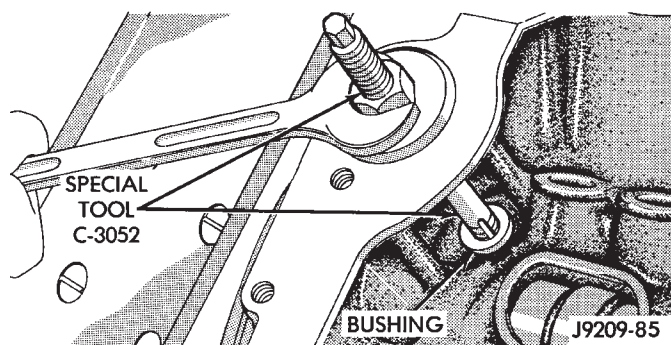

Fig. 33 Distributor Driveshaft Bushing Removal
(1) Remove distributor, refer to Group 8D, Ignition Systems for the proper procedure.
(2) Remove the intake manifold (refer to Group 11, Exhaust System and Intake Manifold).
(3) Insert Distributor Drive Shaft Bushing Puller Tool C-3052 into old bushing and thread down until a tight fit is obtained (Fig. 33).
(4) Hold puller screw and tighten puller nut until bushing is removed.